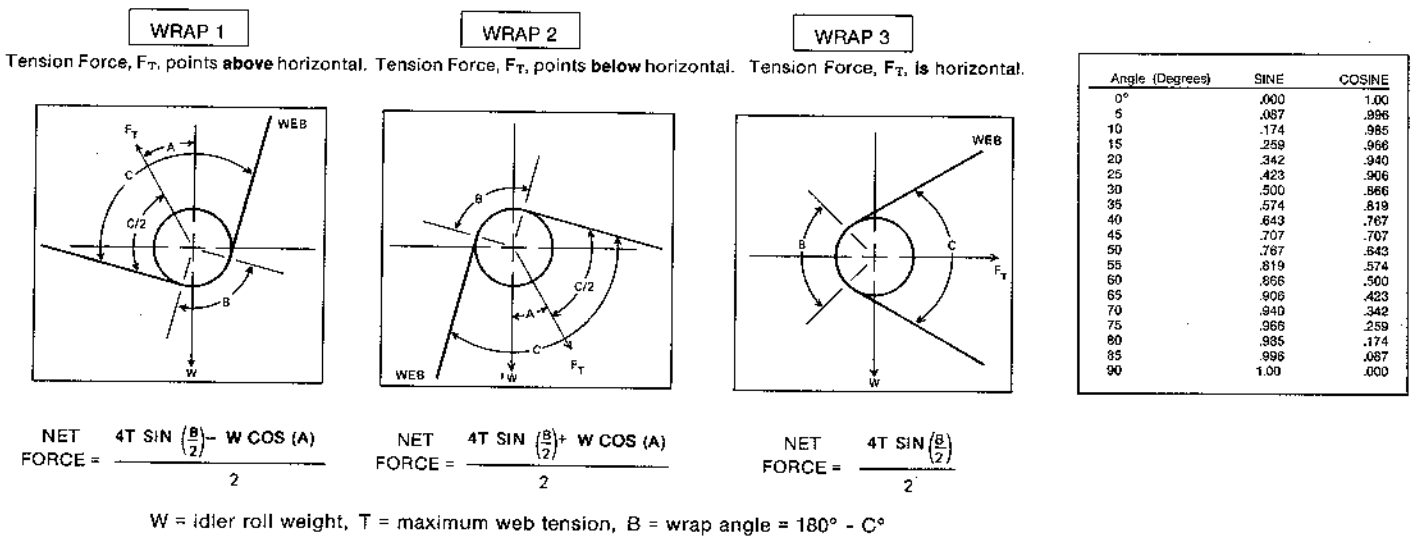

FIGURE 4
The Dead Shaft Transducer is available in eight standard load ratings, ranging from 10 lbs. to 800 lbs. The correct rating for any particular machine depends on web tension, transducer roll weight, wrap angle and the direction of the tension force on the transducer roll. Figure 4 contains mathematical formulae which use these factors to determine the correct load rating.
3.1 SELECTION PROCEDURE (see Figure 4.)
Refer to Figure 4. Select the appropriate wrap configuration as determined by the direction of the tension force (above, below or on horizontal). Compute the Net Force, using the formula below the wrap diagram.
- B. Increase angle (A). (see Figure 4)